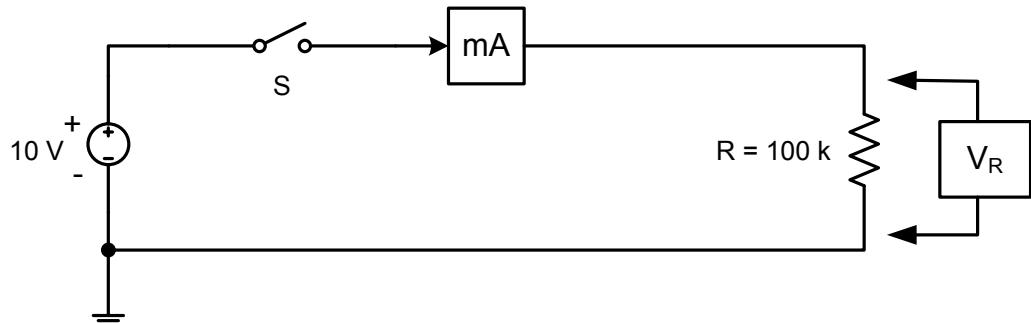

Figure 3.3
**Step 2:** Connect the circuit shown in Figure 3.3 on the protoboard. Measure the voltage,  $V_R$  across the resistor and the loop current,  $I_1$ .